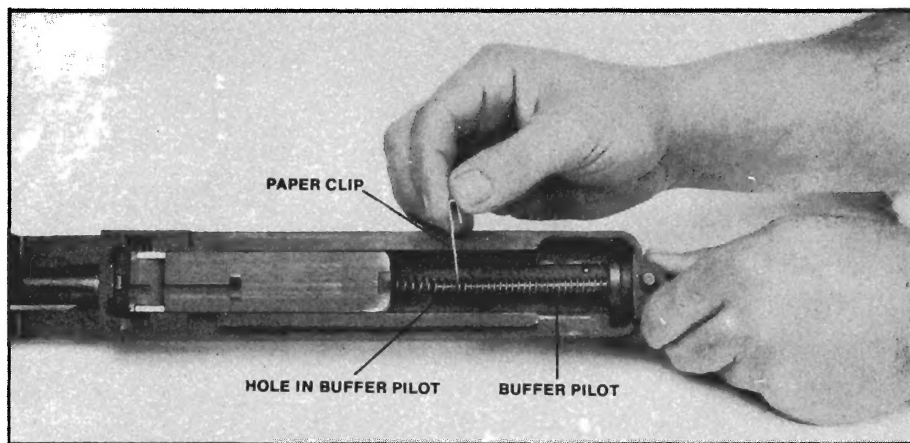

Fig. 4. Using paper clip to hold compressed spring on buffer pilot.
3. With gun still upside down, disassemble upper receiver (37) by pulling bolt (4) to the rear about two inches and inserting a paper clip into the small hole in buffer pilot (5). (see fig. 4)